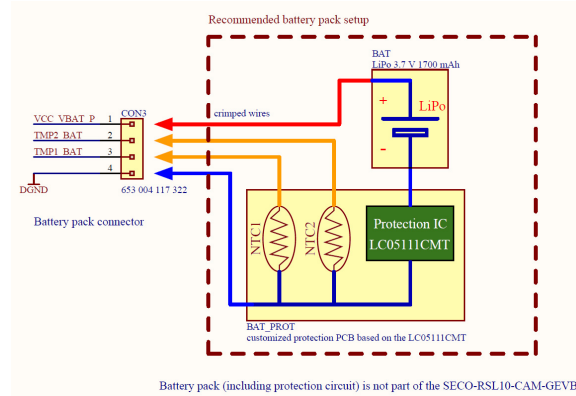

Figure 10. High-level Principal Schematic of Rechargeable Battery Connection and Protection Circuitry Towards CON3
- The protection circuit consists of two NTC temperature sensors that monitor battery temperature. NTC1 connects via TMP1_BAT header towards battery charger FAN54120, and NTC2 applies for fuel gauge LC709204. The connection of battery pack is shown in Figure 10.